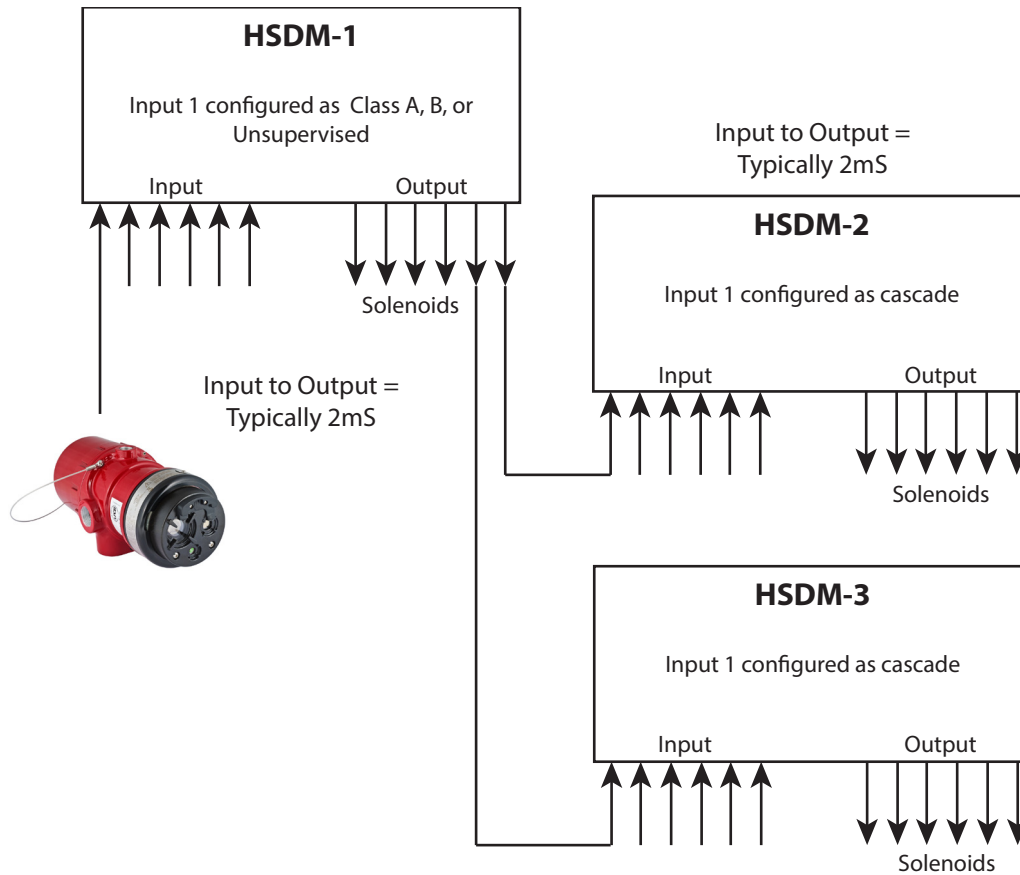

Figure 5—HSDM Cascade Example #2
In the example portrayed in Figure 5, the activation of an input on HSDM-1 will result in the activation of four (4) solenoids typically within 2mS of the initial activation and an additional twelve (12) solenoids typically within 4mS from initial activation. A description of the sequence of events follows: